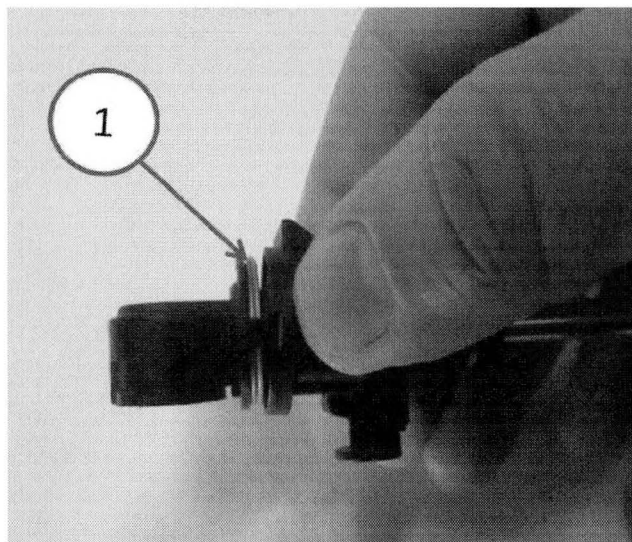

Fig. 10 Shift Cable
22. Release the adjustment by pushing the sliding collar of the adjustment fitting forward in the vehicle until the spring is compressed as in (Fig. 10).